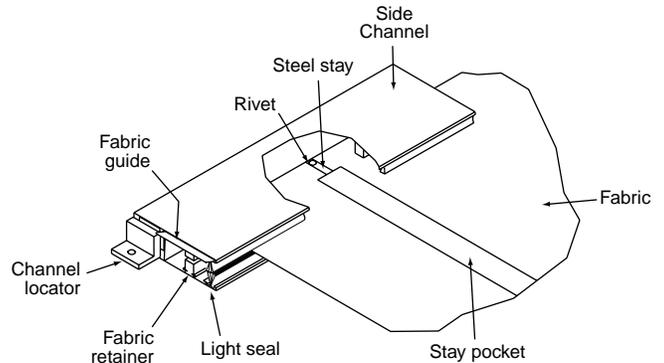

Figure 14
- ② Insert four fabric guides into side channel grooves to help funnel fabric into the channels (see Fig. 14). Make sure the bevel, or bent portion, is placed facing up if inside mount, and down if outside mount.